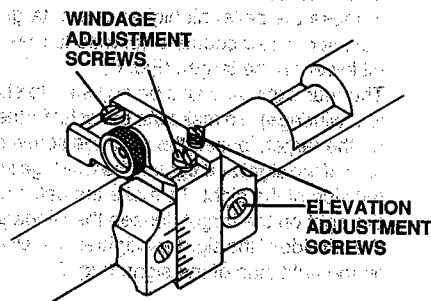

FIG. 7
Then turn the elevation screw on the top of the sight clockwise to make the pellet hit higher on the target and counterclockwise to make the pellet hit lower on the target. After making your adjustments retighten the elevation adjustment screw on the right side of the sight. (Fig. 7)
- The peep sight may also be adjusted to shoot right or left (windage): First loosen the 2 windage adjustment screws. Then slide the sight to the right to make the pellet hit further to the right on the target or slide the sight to the left if you want to make the pellet hit further to the left on the target. After making your adjustments, retighten the windage adjustment screws. (Fig. 7)